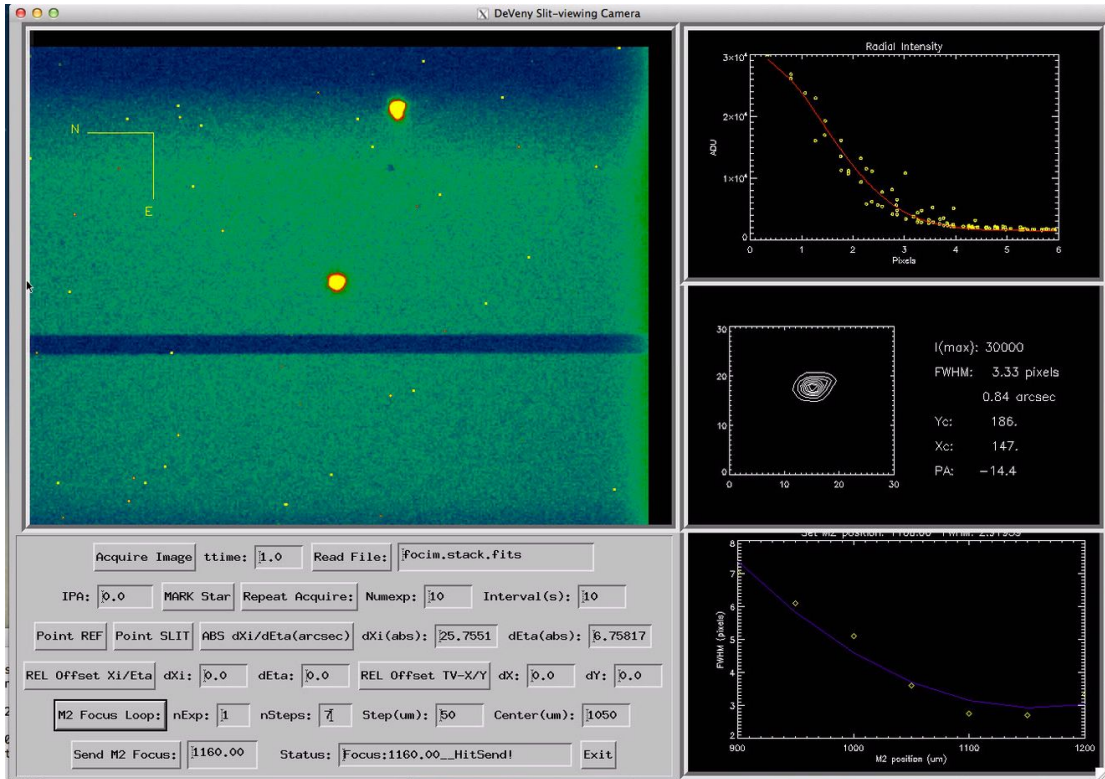

Figure 20. IDL slitview control GUI. A star can be seen at the reference location. In the right hand panel a contour and radial plot have been produced.
- 6) **Point REF:** Moves the telescope to put the star ~ 5 arcsec above the center of the slit. A verification image is automatically taken following the offset. After pressing the Status field will change to say Markstar! and the cursor will change. A radial and contour plot will be generated (see Figure 20).
- 7) **Point SLIT:** Moves the telescope to put the star approximately at the slit center position. A verification image is automatically taken following the offset. After pressing the Status field will change to say Markstar! and the cursor will change. A radial and contour plot will be generated (Figure 20).